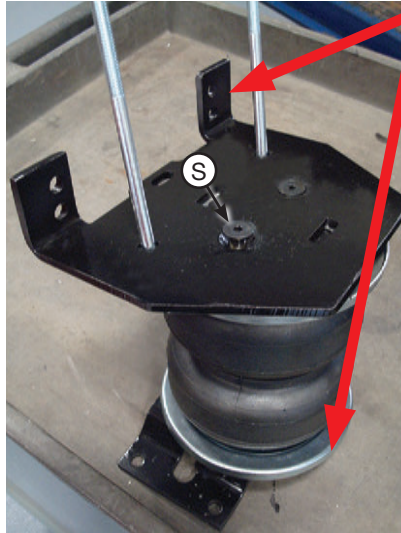

fig. D.10
- Insert two 3/8"-16 x 10" carriage bolts (K) through the square holes in the lower bracket main plate (B) (Fig. D.10).